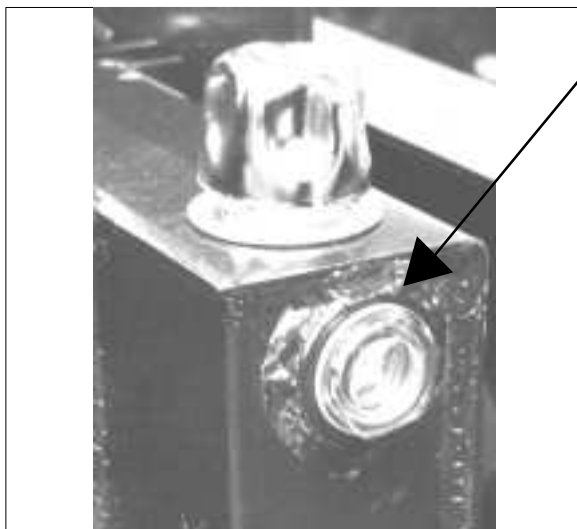

Figure 17
**HYDRAULIC RESERVOIR LEVEL SIGHT GAUGE (See Figure 17)**